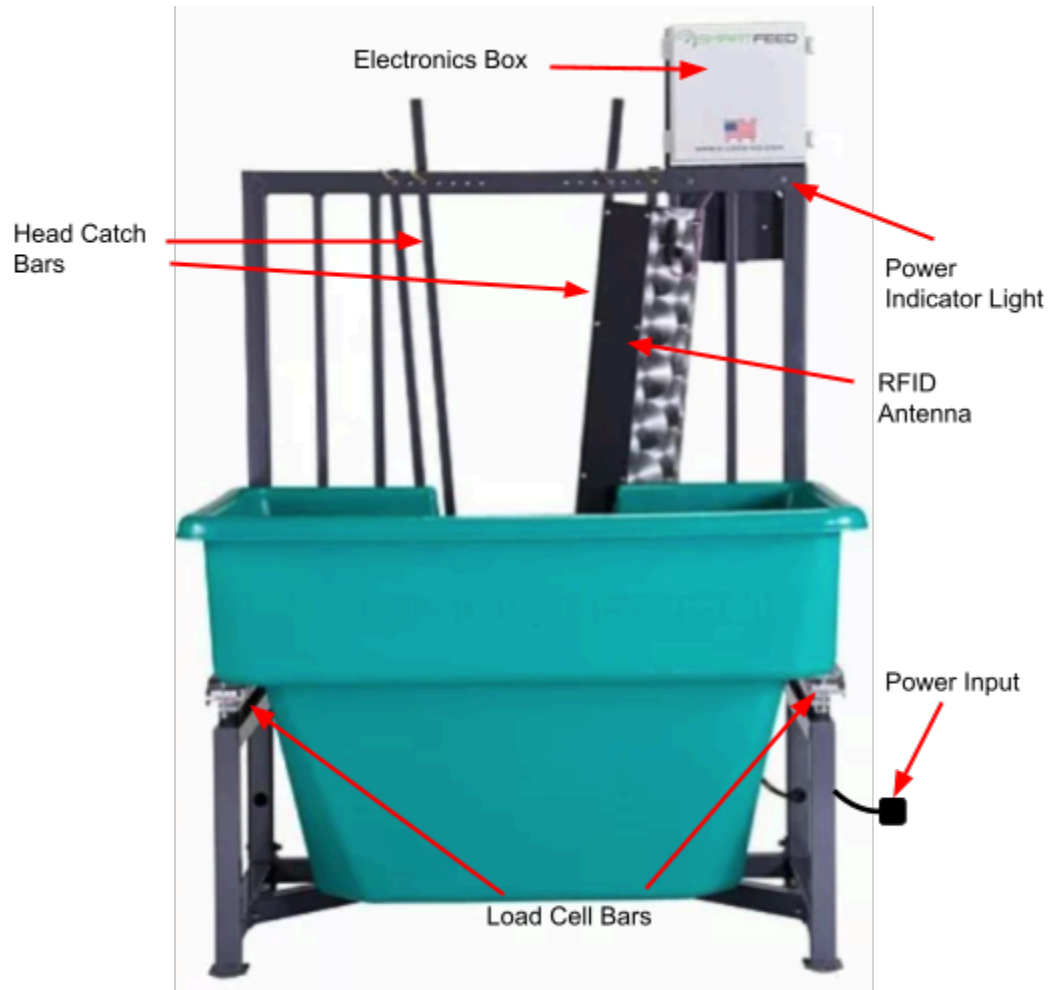

Figure 1) Reflects the back of the SmartFeed with the Poly Bin
1. Locate the power receptacle ("Power Input"). (See Figure 1.)